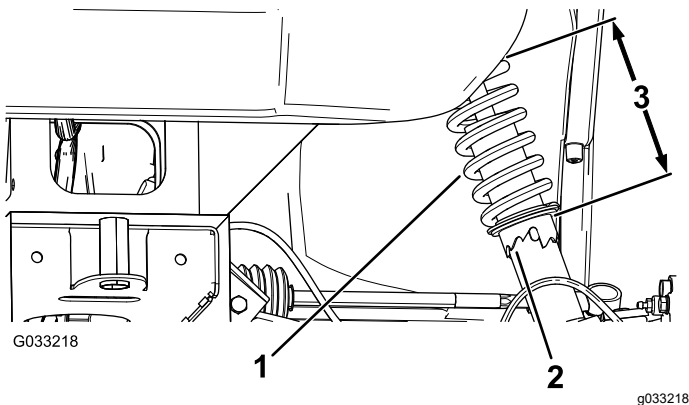

Figure 46
2. If the wheel camber is out of alignment, use the spanner wrench to rotate the collar on the shock absorber to align the wheel (Figure 46).